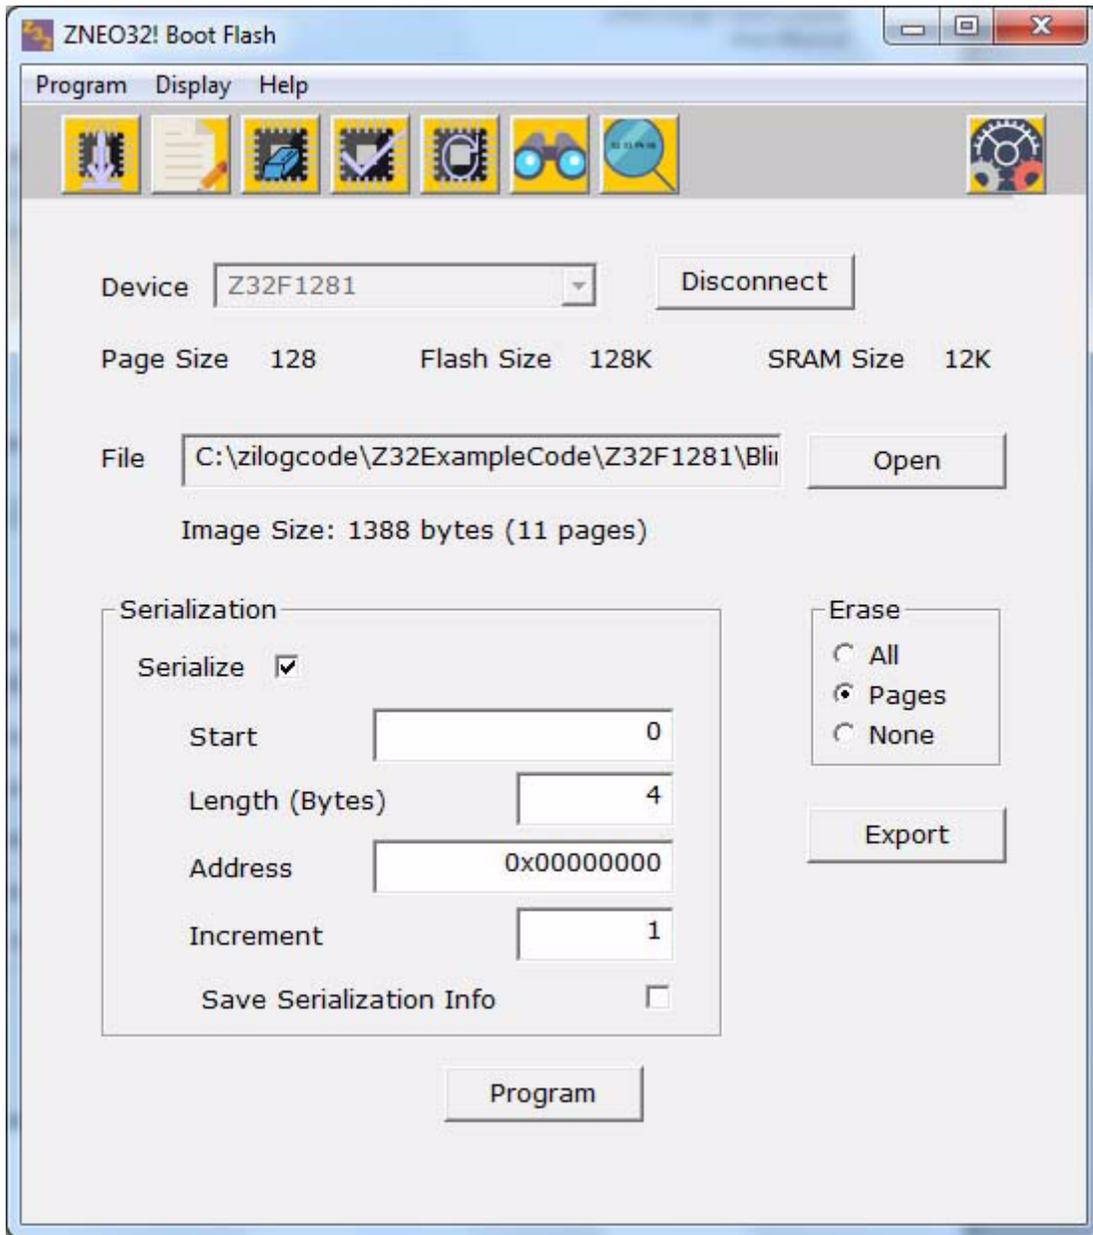

Figure 7. Program Device Information
4. After the Flash image is created, the system checks for any stored serialization information. If the selected file was used in the past with the same target with serialization, the serialization section is updated with the last used information for that file/device combination. The Erase section and Program button are also enabled, as shown in Figure 7.